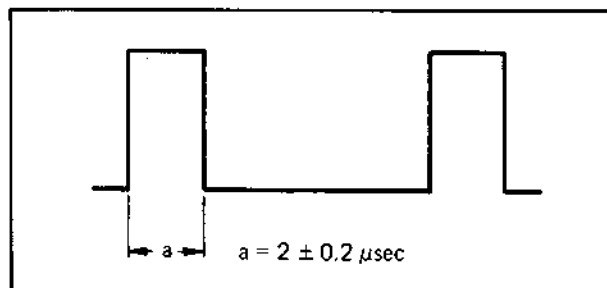

Fig. 6-32 AFC Detector reference signal
3. Adjust R301 (PULSE WIDTH) so that the pulse width of TP-218 is as shown in Fig. 6-32.